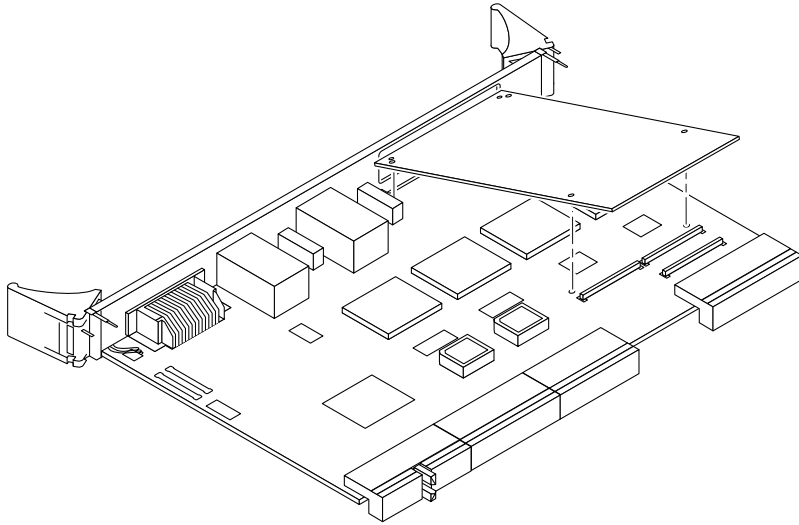

FIGURE 2-3 Inserting the PMC Into the Front Card's PMC Slot
7. **Insert the PMC at an angle into the front card's PMC slot (FIGURE 2-3).**